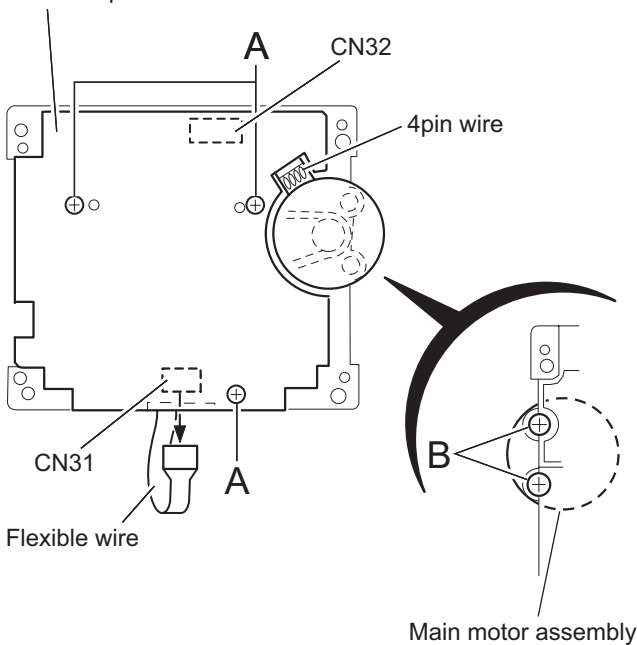

Fig.4
3.4.2 Removing the head amplifier & mechanism control board (See Fig.4)
3.4.3 Removing the main motor (See Fig.4~7)